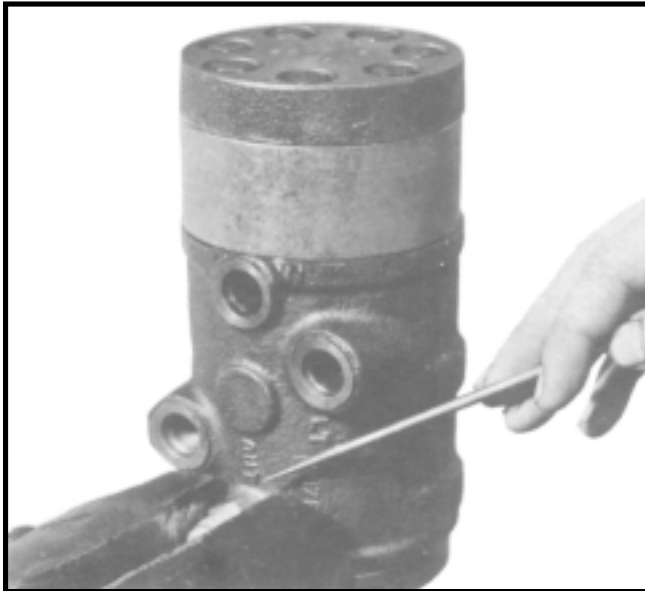

Figure HGA-7
1. To prevent possible distortion or damage to unit if placed directly in vise, the following procedure should be used. Insert "o" ring tube fitting, with tube nut or fitting cap attached, into one of the four threaded ports in the housing. Clamp the fitting in a vise in a manner which will locate the seven end cover bolts in an upright position. (See Figure HGA-7).